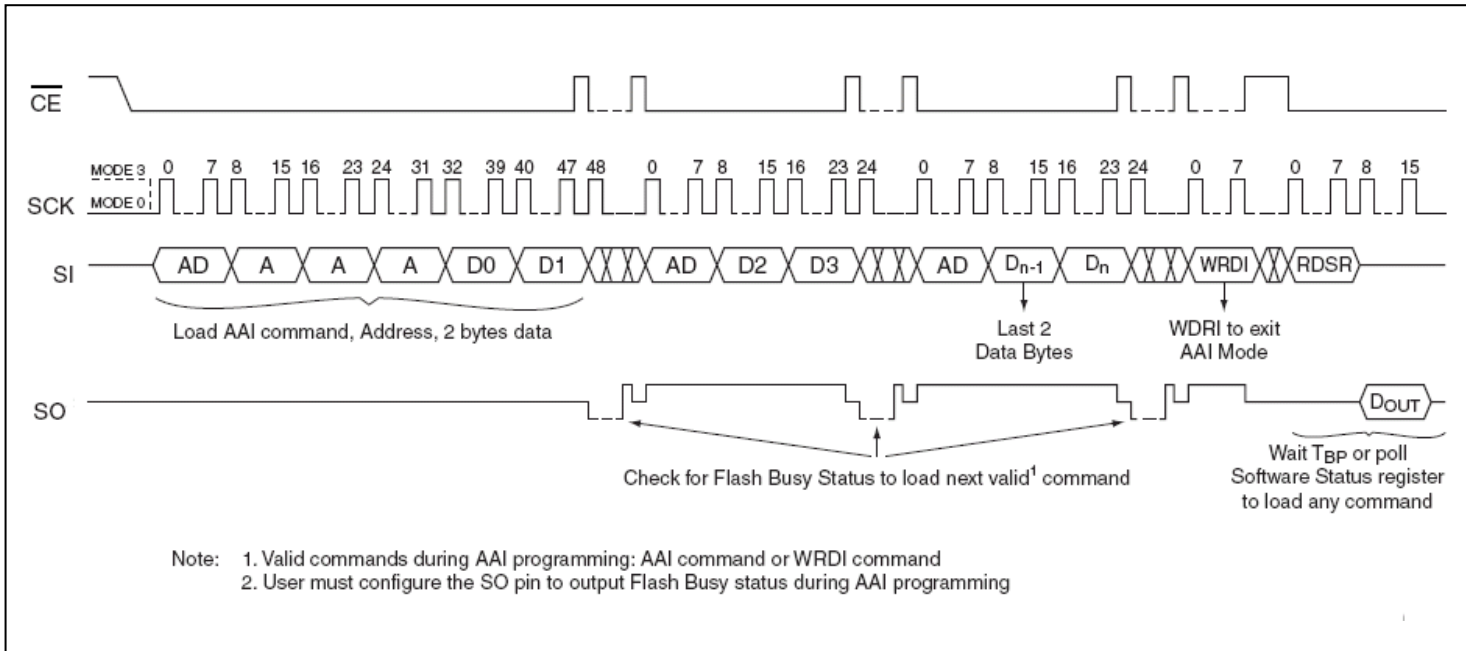
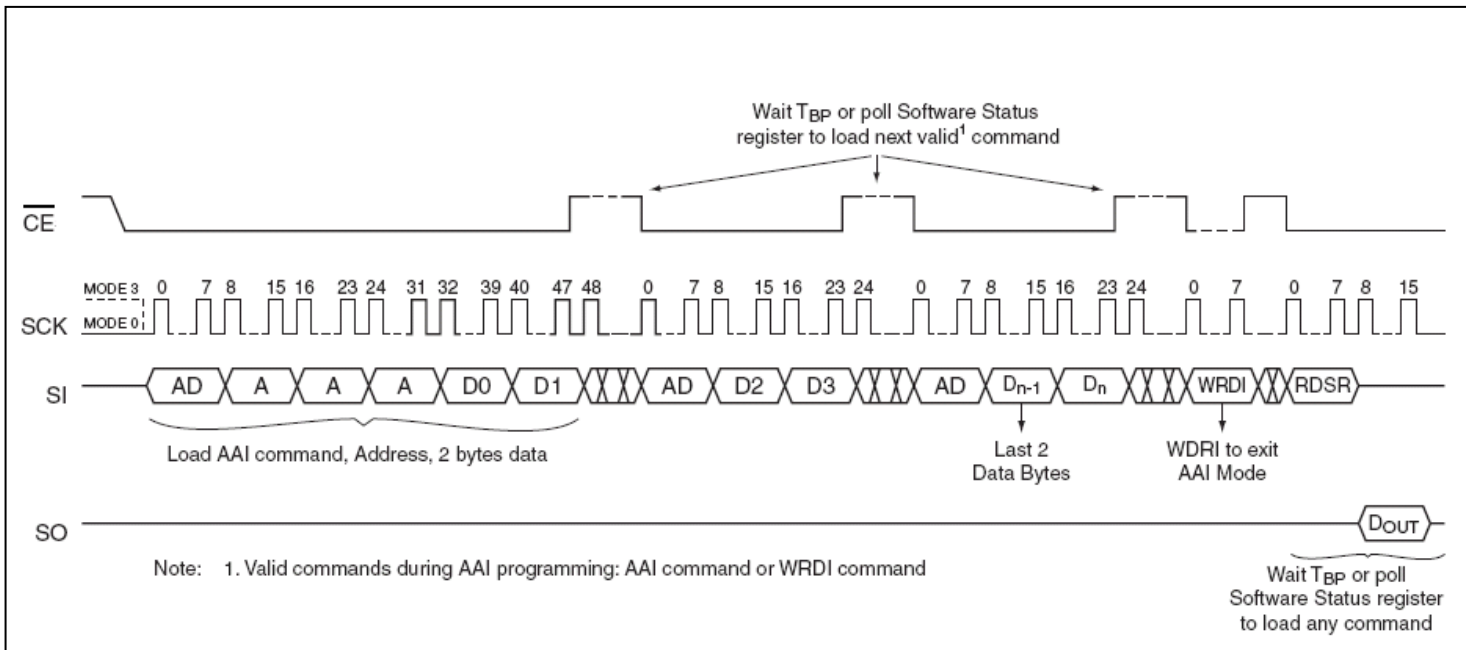

Figure 8: AAI Word Program Sequence with Hardware End of Write Detection
Figure 9: AAI Word Program Sequence with Software End of Write Detection
7) to LSB (bit 0). The first byte of data (D0) will be programmed into the initial address [A₂₃-A₁] with A₀=0; the second byte of data (D1) will be programmed into the initial address [A₂₃-A₁] with A₀=1. \overline{CE} must be driven high before the AAI WORD program instruction is executed. The user must check the busy status before entering the next valid command. Once the device indicates it is no longer busy, data for next two sequential addresses may be programmed and so on. When the last desired byte had been entered, check the busy status using the hardware method or the RDSR instruction and execute the WRDI instruction, to terminate AAI. User must check busy status after WRDI to determine if the device is ready for any command. Please refer to Figure 8 and Figure 9.